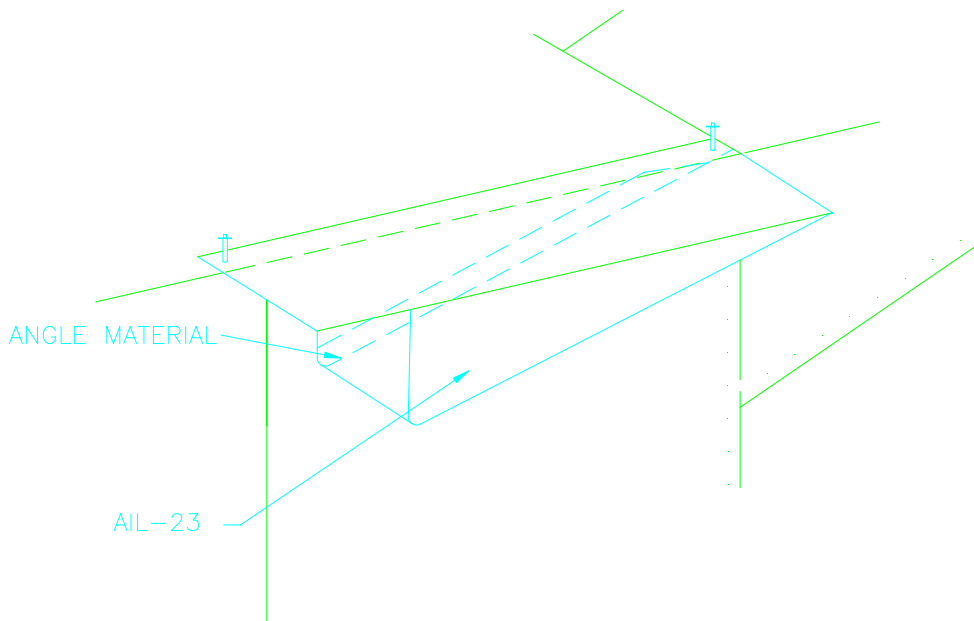

Figure 9.15.5
- 11) Place the fairing box against the fuselage with the flange overlapping onto the roof skin and align the trailing edge with the trailing edge of the flap. **NOTE:** Be sure that the Flaps are in retracted position. The wing may be removed after this step if preferred. Figure 9.15.5.